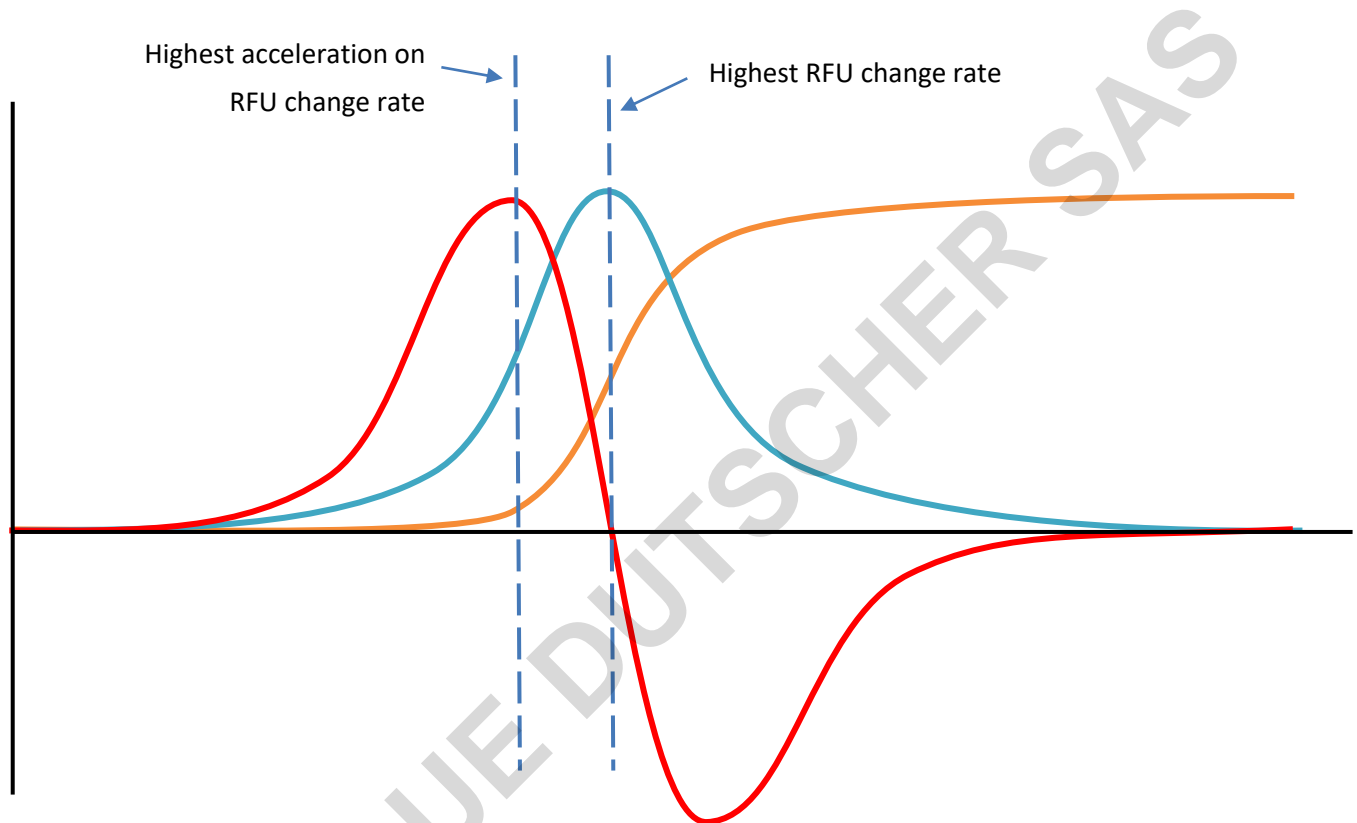

Figure 23. Individual Ct
**Individual Ct** feature looks for the timing at which there is highest acceleration on RFU change rate (Figure 23.).